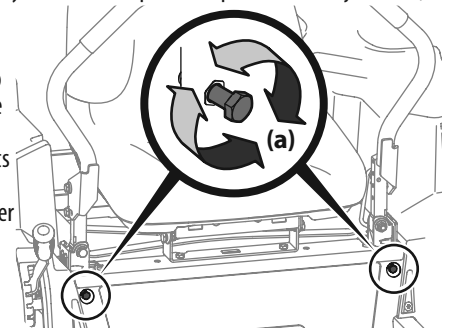

Figure 41
- Locate the lapbar drive control lever stop adjustment bolts (a) on the front of the seat frame. See Figure 41.